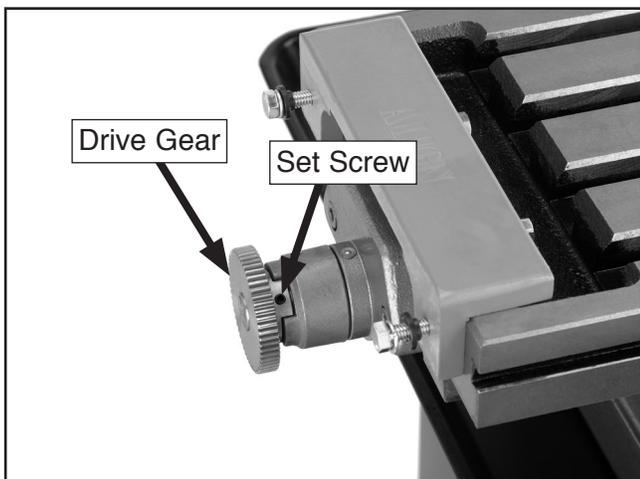

Figure 10. Attaching drive gear.
1. Attach the 2 $\frac{1}{4}$ " diameter drive gear to the left end of the longitudinal table leadscrew. The gear couplers on the drive gear and table leadscrew will lock together (**Figure 10**).